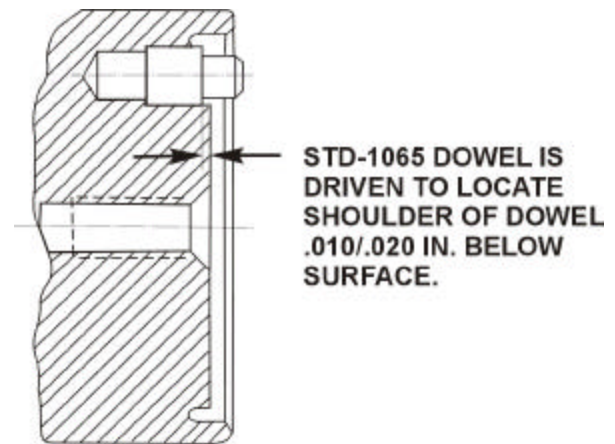

Figure 2. Section Thru End of Crankshaft Showing Driven Height of STD-1065 Dowel
2. Check the condition of the dowel in the end of the crankshaft. It should be perfectly smooth with no indication of nicks or deformation. If it is out of round, it should be removed and replaced with a new one. Replacement instructions are in paragraph 4. If dowel condition is acceptable, insure that it is installed as shown in Figure 2 or 3.
- 5. Install a new dowel in the crankshaft as shown in Figures 2 and 3. Insure that the correct dowel is installed.